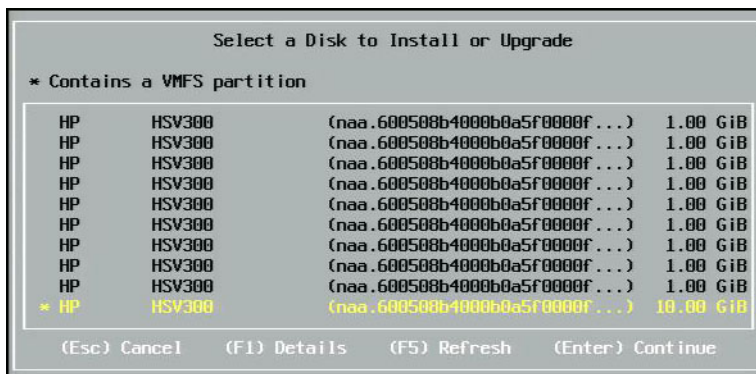

Figure 13-28. ESXi Disk Selection
- On the Select a Disk window (Figure 13-28), scroll to the boot LUN for installation, and then press ENTER to continue.